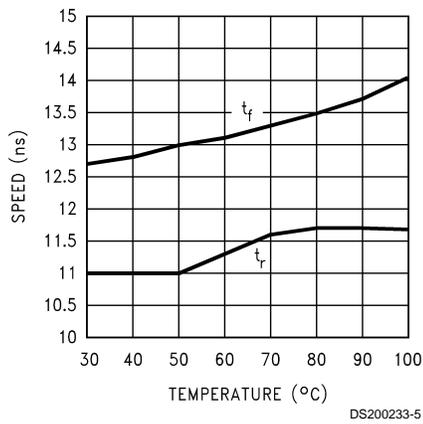

FIGURE 4. Speed vs Temp.
*Figure 4* shows the performance of the LM2421 in the test circuit shown in *Figure 2* as a function of case temperature. The figure shows that the rise and fall times of the LM2421 increase by approximately 5% as the case temperature increases from 50°C to 70°C. This corresponds to a speed degradation of 2.5% for every 10°C rise in case temperature.